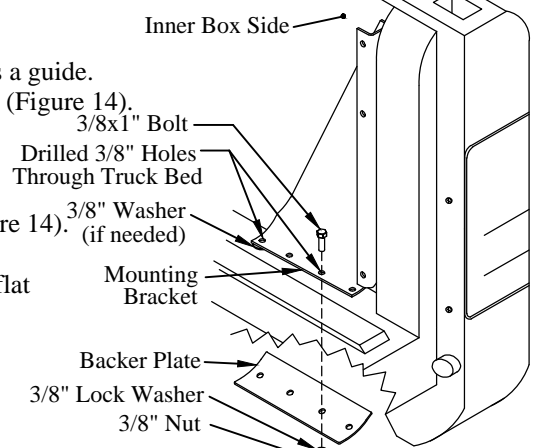

Figure 14: Mounting bracket and backer plate.
Choose two of the four holes provided with no obstructions on the underside (Figure 14).
- (2) 3/8"x1" hex head bolts on the top-side (Figure 14).
- (1) backer plate, (2) lock washers, and (2) hex nuts on the under-side (Figure 14).